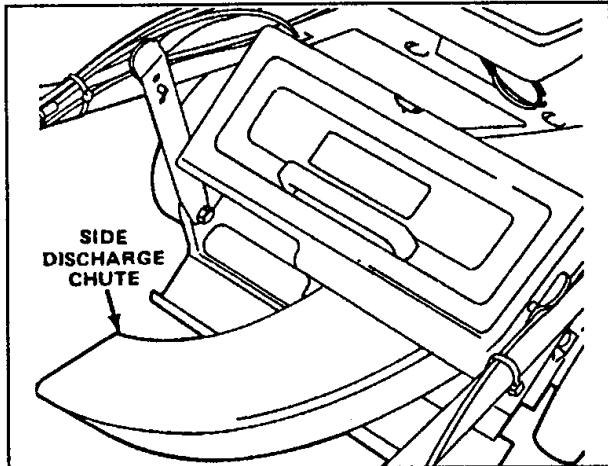

Figure 36
1. Side Discharge Kit, Model No. 59112—Installs in seconds. Rear mounted in place of the grass bag. Disperses clippings while trimming on both sides (Fig. 36).